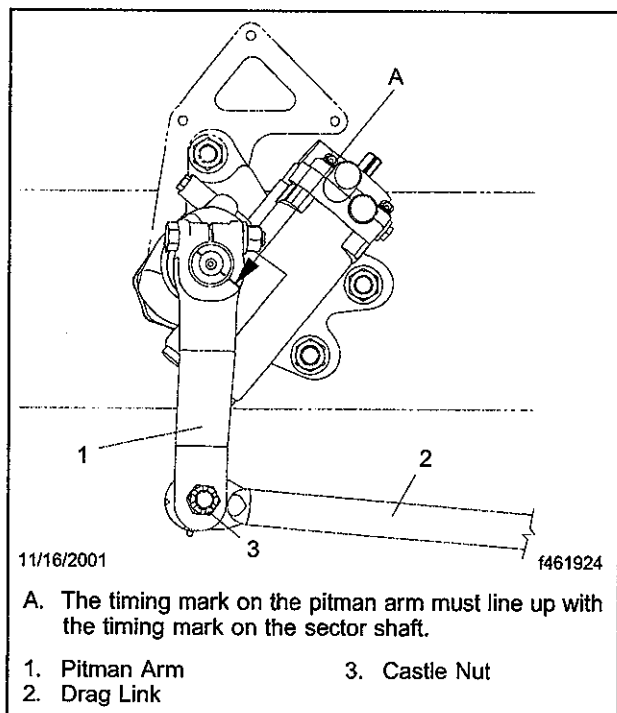

Fig. 5, Pitman Arm
23. Install the pitman arm on the steering gear, aligning the timing marks on the pitman arm with the timing marks on the sector shaft. See **Fig. 5**.